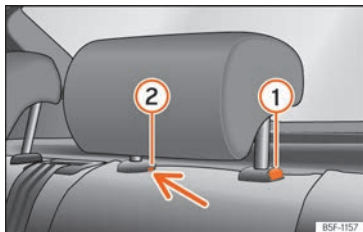

Fig. 116 Rear headrest: removal.
- Press button » Fig. 116 ①, while simultaneously pressing on the security hole ② with a flat screwdriver a maximum of 5 mm wide, and remove the headrest.